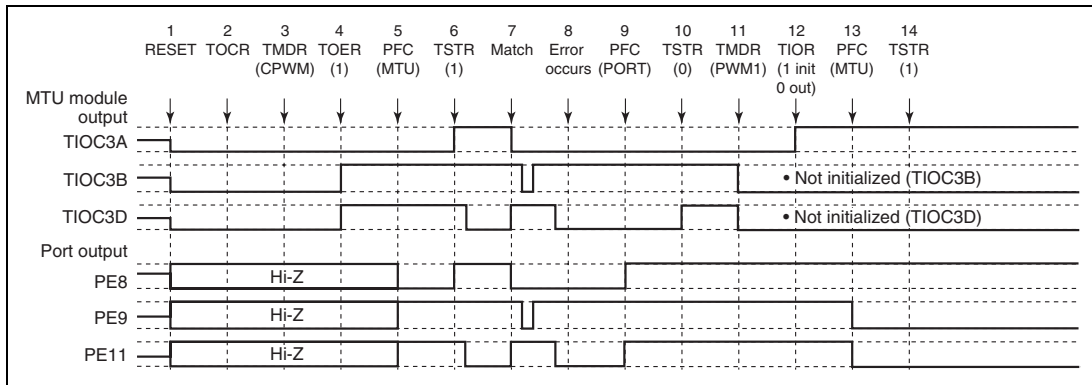

Figure 8.105 Error Occurrence in Complementary PWM Mode, Recovery in PWM Mode 1
(22) Operation when Error Occurs during Complementary PWM Mode Operation, and Operation is Restarted in PWM Mode 1: Figure 8.105 shows an explanatory diagram of the case where an error occurs in complementary PWM mode and operation is restarted in PWM mode 1 after re-setting.